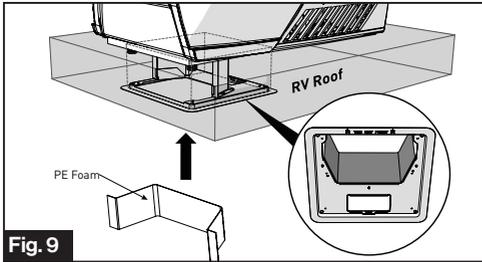

Fig. 9
- Peel to remove the release paper from the PE foam, overlap the sticky side over all gaps and compress to seal and insulate the entire section. (Fig. 9)